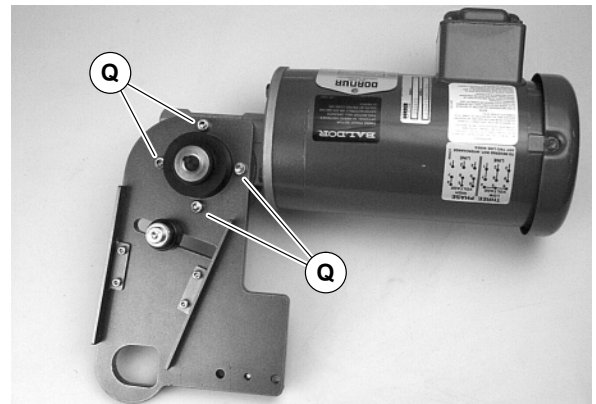

Figure 4
2. If required, change gearmotor position by removing four (4) screws (Q of Figure 4). Rotate gearmotor to other position and replace screws (Q). Tighten to 103 in-lb (12 Nm).